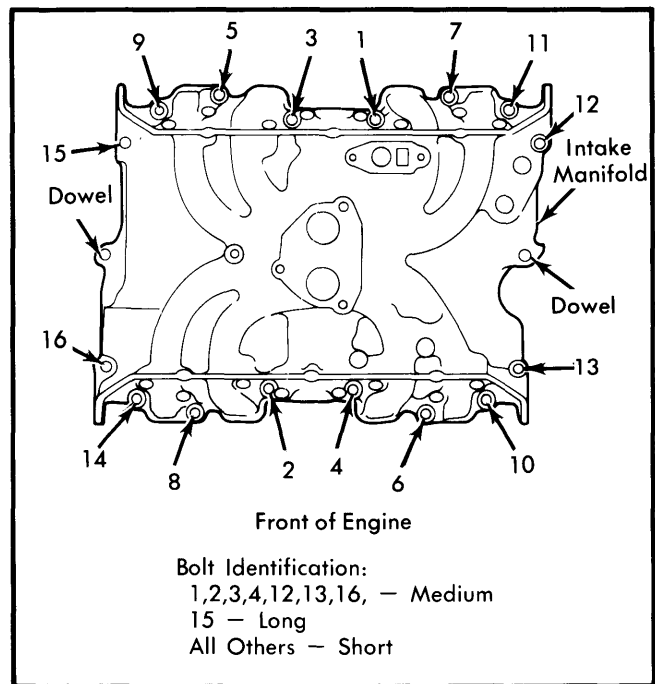

Fig. 1 Intake Manifold Tightening Sequence
3) Loosely install 16 intake manifold bolts as shown in Fig. 1. Tightening of intake manifold bolts must be done in the following sequence: Tighten bolts 1 through 4 in sequence to 11-15 ft. lbs. (15-20 N·m); tighten bolts 5 through 16 in sequence to 18-22 ft. lbs. (24-30 N·m); tighten all bolts in sequence to 18-22 ft. lbs. (24-30 N·m).